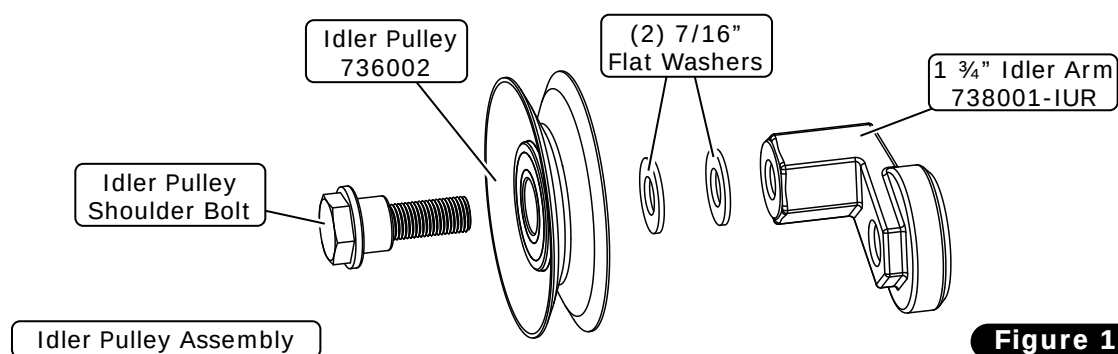

Figure 1
1. Assemble the idler pulley onto the idler arm using the idler pulley shoulder bolt, idler pulley, (2) 7/16" flat washers and the 1 3/4" idler arm (See Figure 1, below).